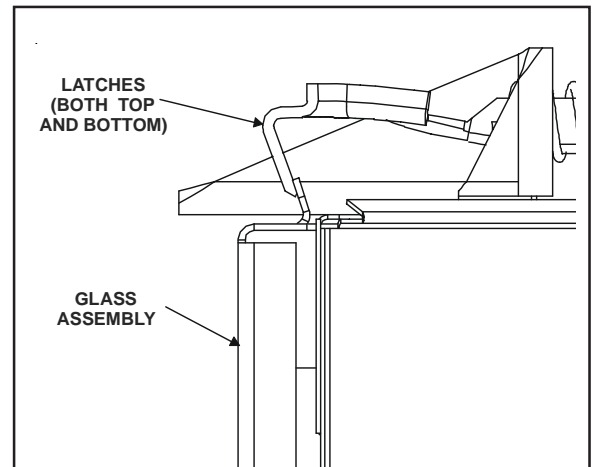

Figure 44. Glass Assembly
- Remove the glass door from the unit (Figure 44).